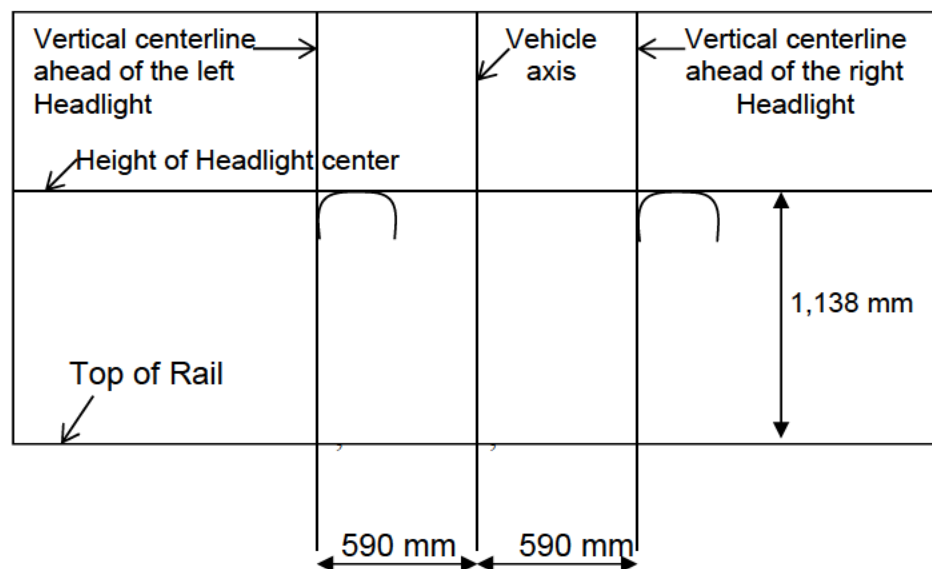

Figure 5-4: Aiming Screen for Headlight
1. Set up the aiming screen at 7,620 mm (25 ft) ahead of the coupler face on one end of the car. See Figure 5-4.
Low beam headlights are aimed so that the top edge of the high-intensity zone is at the height of the headlight center and the left edge of the high-intensity zone is at the vertical centerline of the headlight. See Figure 5-4.